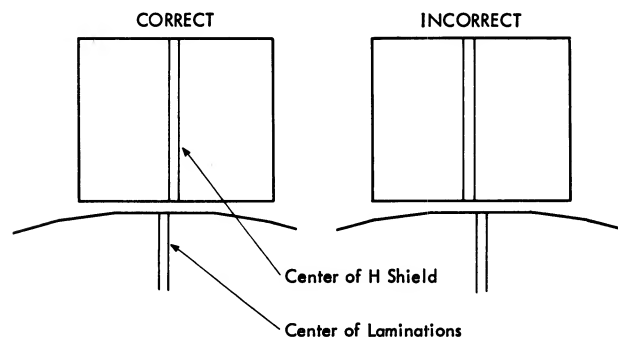

Figure 26. H-Shield Adjustment
6. When a tape unit is adjusted for minimum feed-through, excessive temporary write checks may occur because of the position of the H shield. If the center of the H shield is located to the left of the center laminations of the head (Figure 26), extra bits can be introduced into TAU register B. This shows up as a bit pickup and gives a compare error, causing the temporary write check. To correct this condition, the H shield should be moved to the right, so that the center of the H shield is to the right of the center head laminations. This must be done even though minimum feed-through is sacrificed.